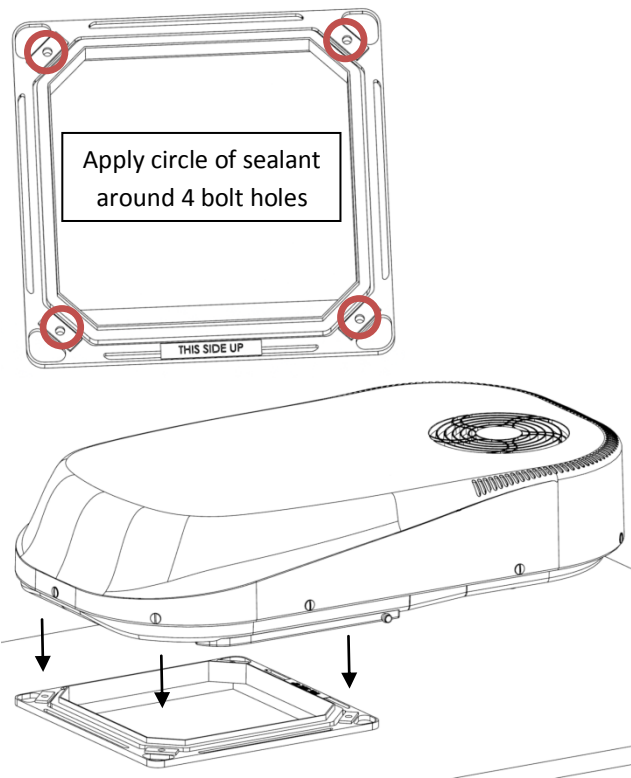

Fig 6: Apply sealant around bolt holes and then position unit over the weather collar and set down gently.
- Position the unit over the weather collar. The unit will engage with the collar and self-align (Fig 6).